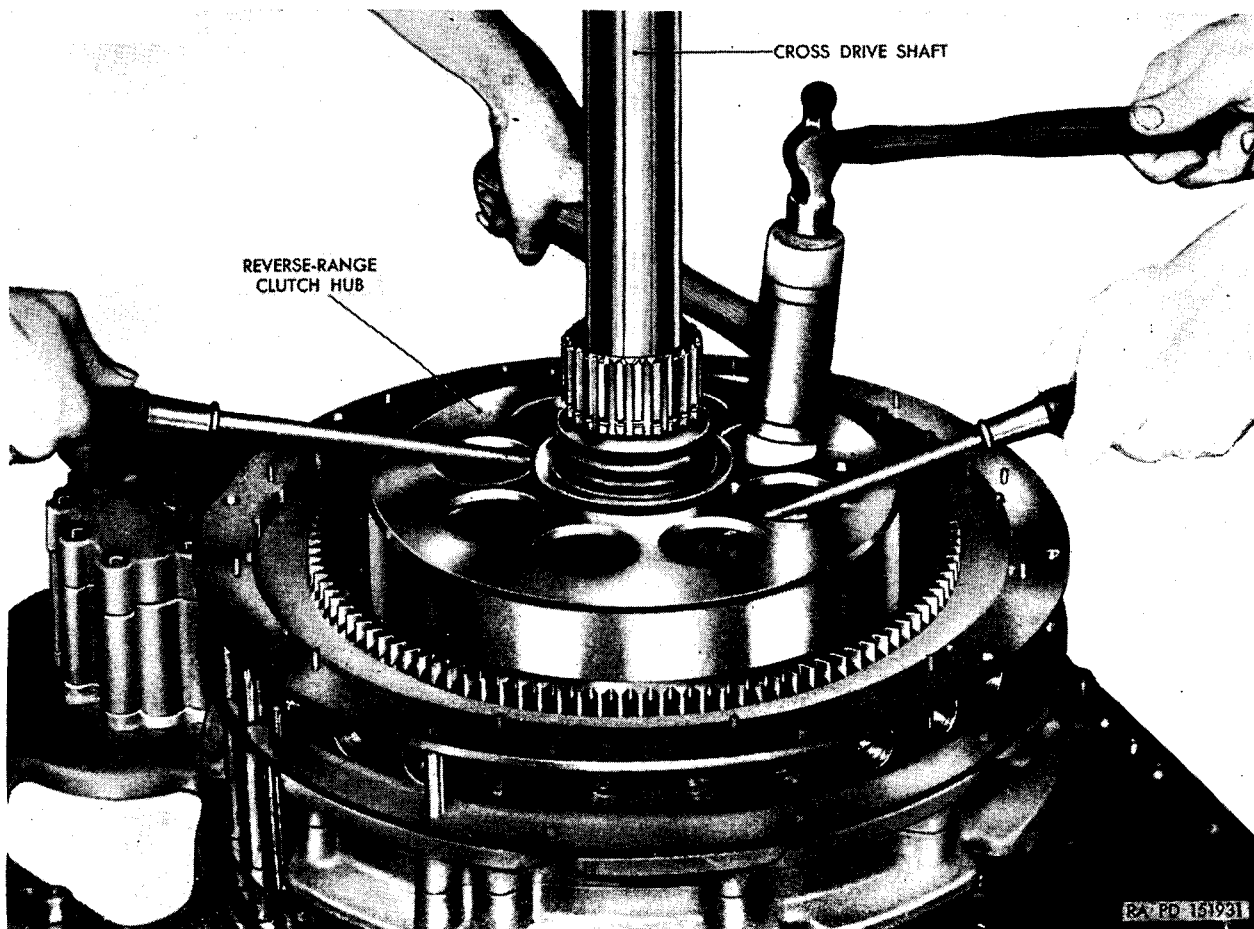

Figure 192. Loosening reverse-range hub.
- (1) Using a $\frac{1}{2}$ -inch wrench, remove the 24 bolts that secure the reverse-range-clutch-hub assembly to the reverse-range planet carrier. Loosen the reverse-range clutch hub from the planet carrier by using screwdrivers or pry bars between the hub and the high-range-clutch housing. At the same time, tap on the high-range clutch housing with a soft hammer or drift (fig. 192). Remove the reverse-range hub, being careful not to drop the thrust washer.